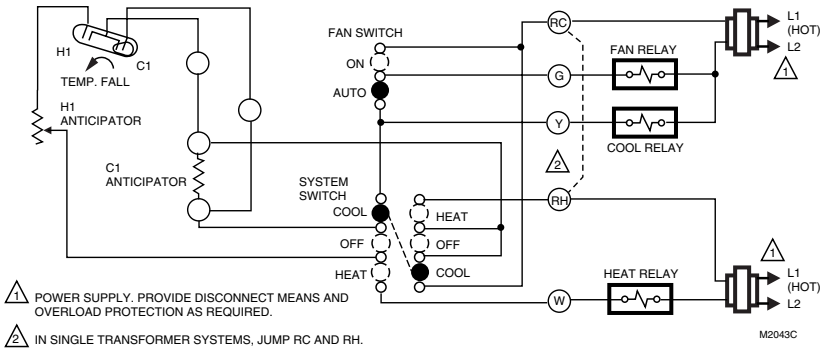

Fig. 3. Internal schematic and typical hookup for T8034C1085 in dual-transformer heating-cooling systems.
3. Connect the wires to the terminals on the back of the thermostat. See Fig. 3 for internal schematic and typical hookup diagram.